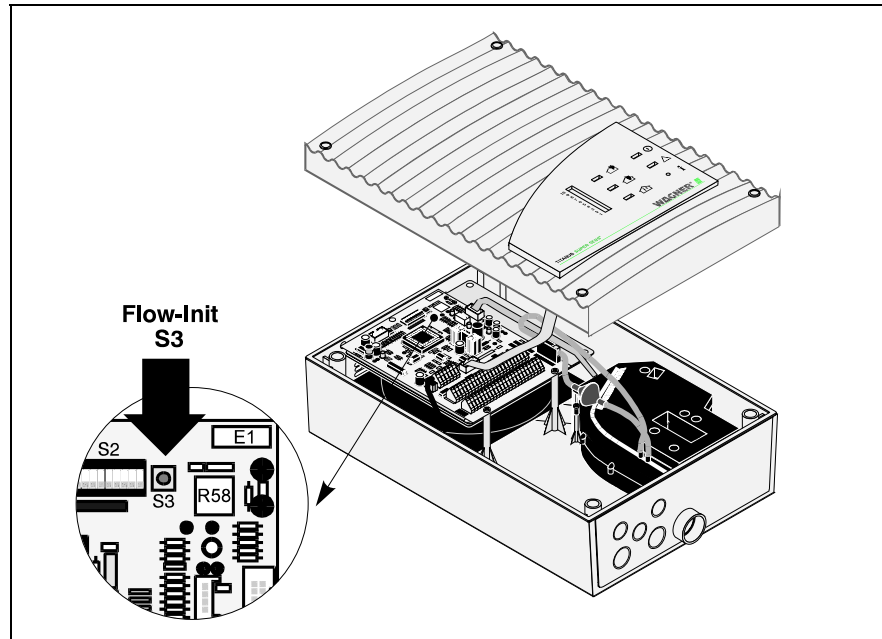

Fig. 7.3: Adjustment independent of the air pressure of the air flow sensor of TITANUS®
In order to adjust the air flow sensor independently of the air pressure press the Flow-Init-button (S3) on the base board of TITANUS® (refer to Fig. 7.3).
- ① Set the switches on the base board (refer to Fig. 7.3) according to the following table: